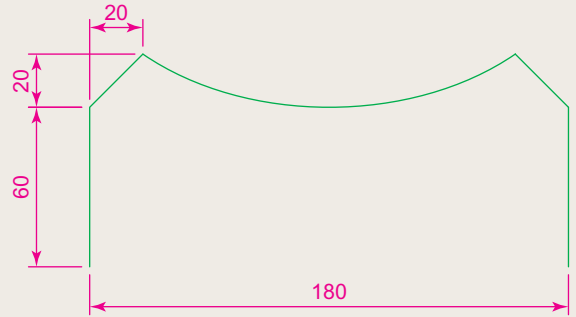
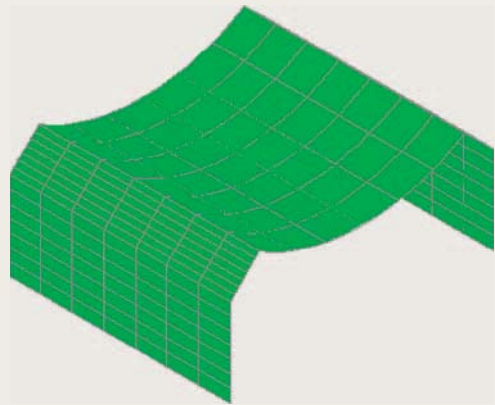

Fig. 14.50 Exercise 6 – outline to be extruded
Fig. 14.51 Exercise 5
5. In the **Right** view construct the lines and arc Fig. 14.50 on a layer colour **green**. Extrude the lines and arc to a height of **180**, place in the isometric view and in the shade style **Visual Styles/Realistic** (Fig. 14.51).